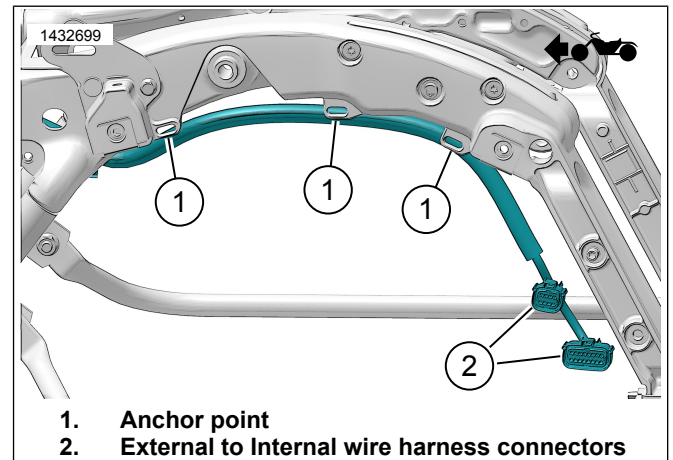

Figure 10. External Wire Harness Routing (Typical)
1. See Figure 10. Route external saddlebag harness along frame. Using cable straps loosely install harness to anchor points (1). Do not tighten cable straps.
See Figure 10. Connect external saddlebag harness to internal harness (2) on saddlebag.
- See Figure 10. Route external saddlebag harness along frame. Using cable straps loosely install harness to anchor points (1). Do not tighten cable straps.